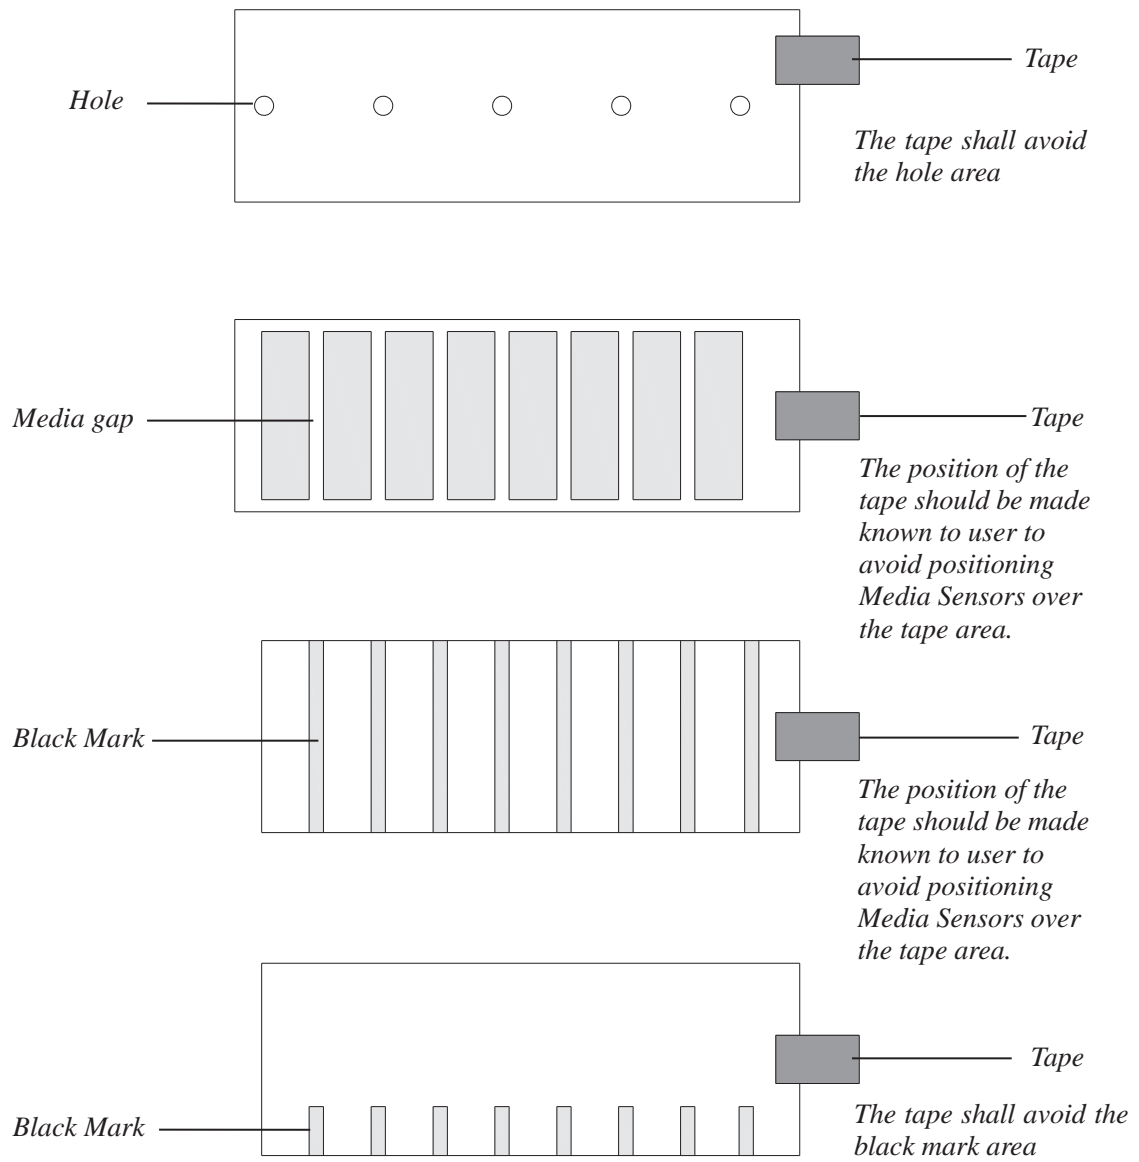

Figure 3-51 End-fixing Tape Position
- When roll media is produced, the media end would be fixed on the media core with duct tape or scotch tape. If your printer cannot detect the Media Out signal well, please refer to Figure 3-51 to check the position of the tape.